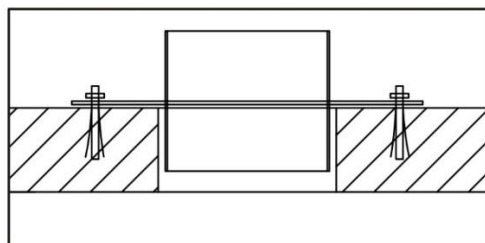

Figure 2
(2) Once you have confirmed the location in which your stove is to be installed, drill a 24-28cm diameter opening in the roof to install the flanges. The flange is fixed with M12 expanding bolts (bolt length not less than 10cm). Depending on the installation the flange can be installed on the upper or lower part of the roof as shown in Figures 2 and 3.